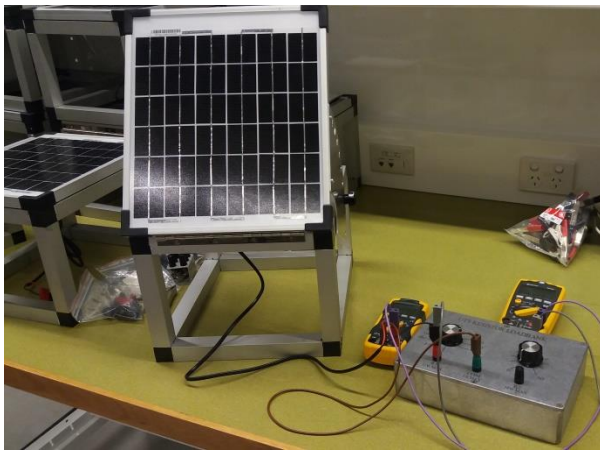

Fig. 1 Experimental setup for PV panel measurement
4. Connect the experiment according to Fig. 1. Fig. 2 shows the schematic of connecting the equipment together. For the digital meter using as an ammeter, select the mA scale to obtain better readings.
6. Measure the short circuit current and panel output voltage in the same conditions as in step 4. Record both values. The panel voltage will be small (0) for this condition.